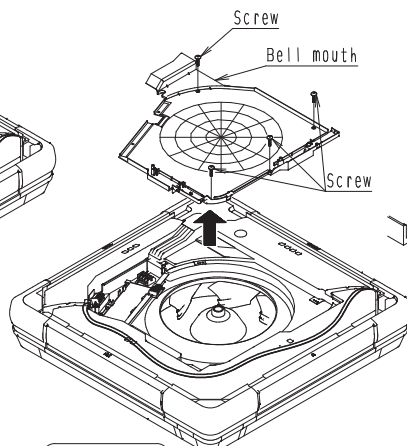

Fig. 1-2
- (3) Remove the bell mouth from the indoor unit (4 screws). (Fig. 1-2)